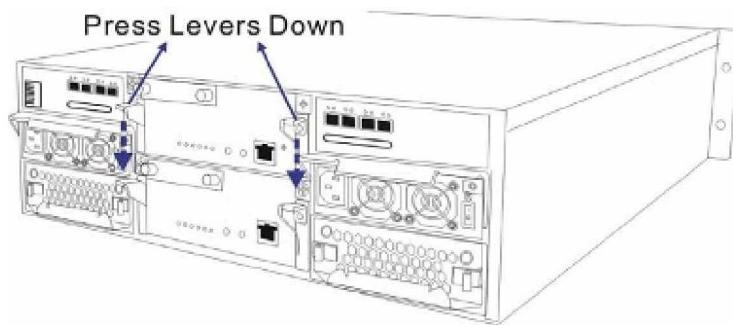

Figure 5-2: Press Levers Down
Step 3. Remove the controller module by pressing down the two (2) levers at the back of the controller module. The controller module will automatically be eased out of the controller module bay. (See *Figure 5-2*)